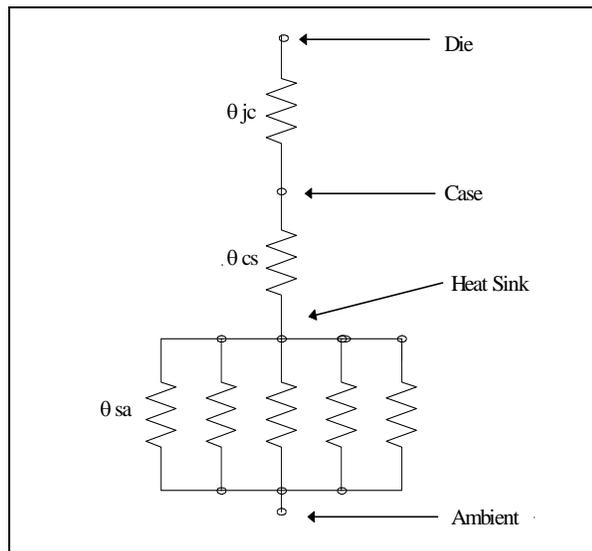

Figure 3 Thermal flow path of a transistor to heat sink
- 1.3. Of equal importance to the transistor junction to case thermal resistance is the thermal resistance between the transistor and the environment. Each of the interfaces and layers of material in the heat flow path must be carefully investigated to insure the proper thermal design. Fig 3 is a thermal flow chart of a transistor - heat sink combination. The thermal resistance in the heat flow part are  $\theta_{jc}$ (transistor to case),  $\theta_{cs}$  (transistor case to heatsink), and  $\theta_{sa}$  heatsink. All are very important. The thermal resistance numbers for case to heat sink  $\theta_{cs}$  vary for different package configurations as shown below:-